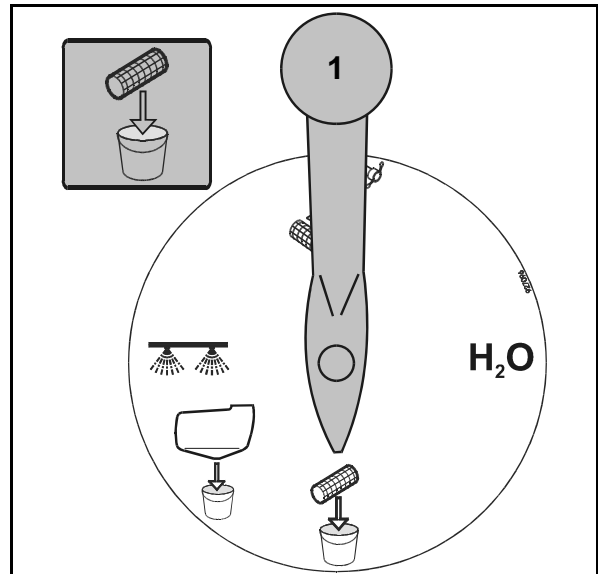

Fig. 210
18. VARIO-control-suction side (Fig. 210/1) in position "**Emptying the suction filter**" and drain off the technical residual amount in the spray line, the valve chest, the suction and pressure hose and the pump into a suited collecting container.